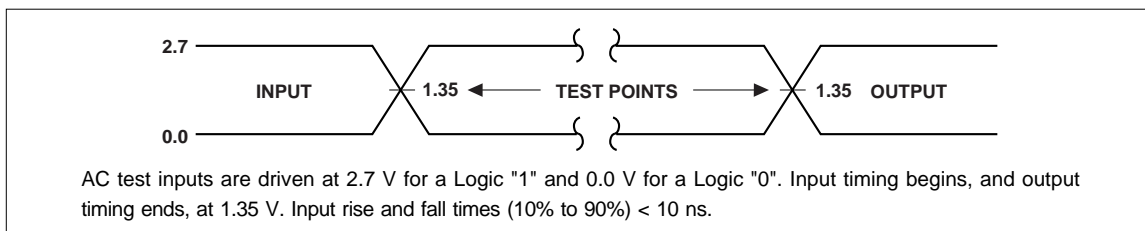

Fig. 9 Transient Input/Output Reference Waveform for $V_{CC} = 2.7$ to 3.3 V
1. See AC Input/Output Reference Waveform (**Fig. 9**) for maximum allowable input slew rate.